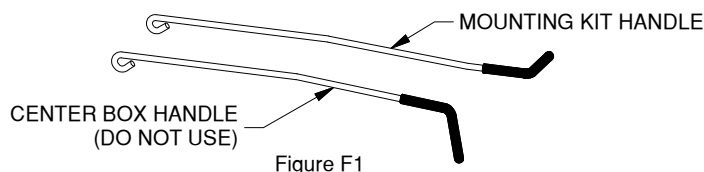

Figure F1
- 1. Locate the correct handle.** This hitch kit comes with a handle in the mounting kit box and in the center box, see Figure F1. The handle which comes in the mounting kit box will be used. The shorter handle, in the center section box, will not be used in this installation. When properly installed, the handles vinyl cover will be horizontal instead of vertical.